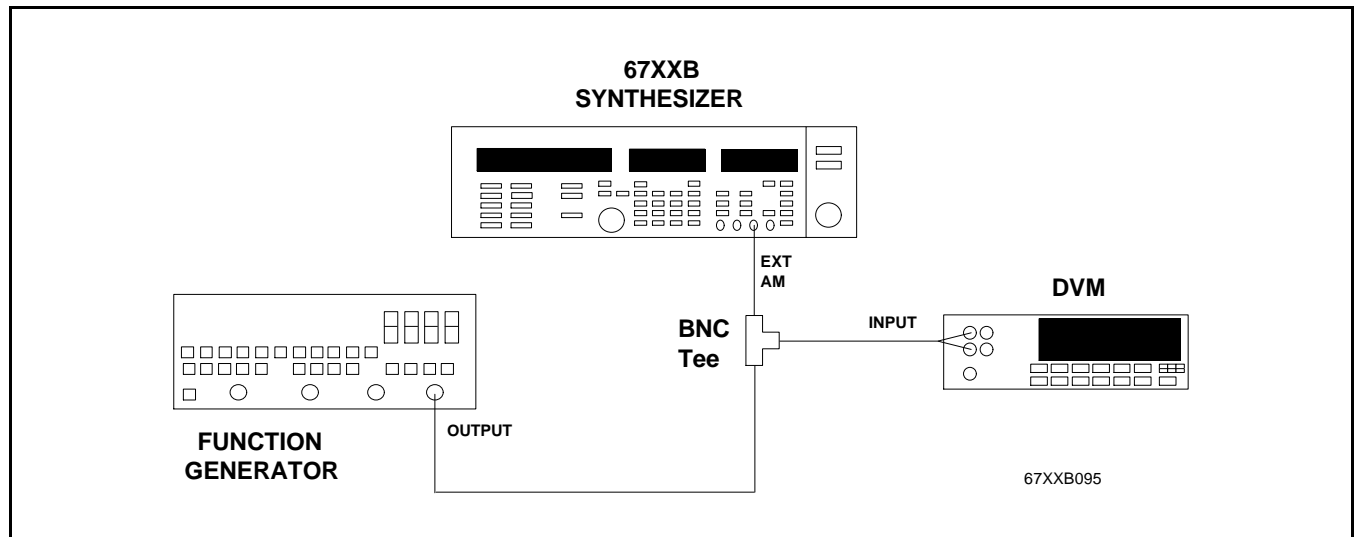

Figure 3-14. Test Equipment Setup for AM Meter Calibration
1. Connect the equipment, shown in Figure 3-14, as follows: